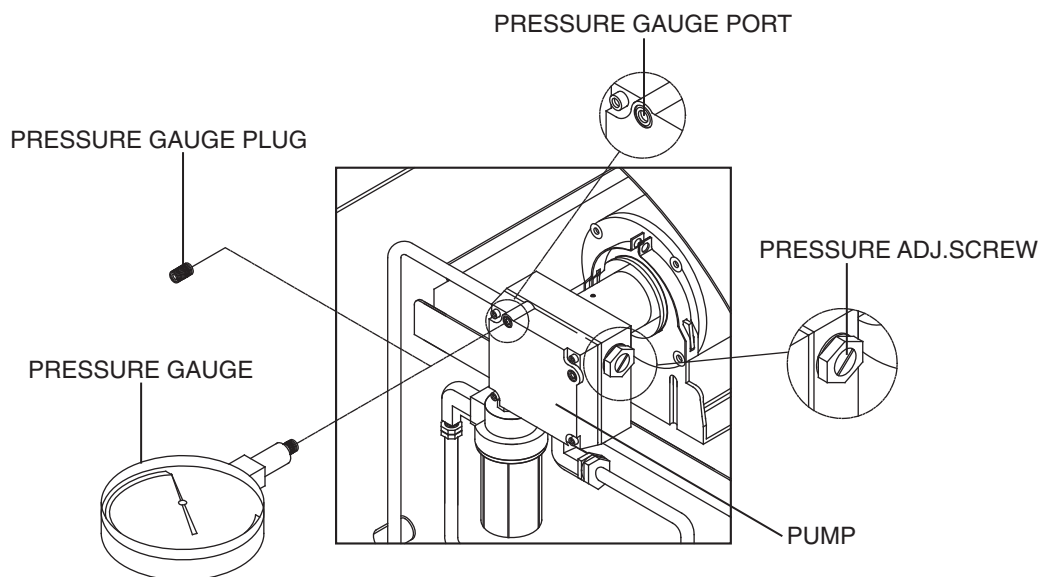

Figure 16. Adjusting Pump Pressure
- Install accessory pressure gauge to pressure gauge port. (See Figure 16)